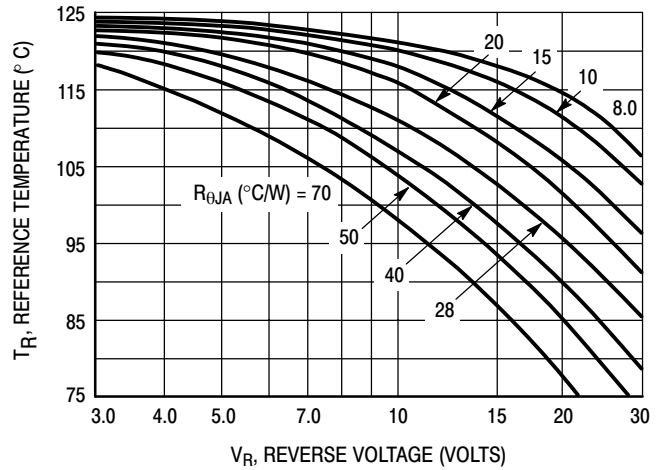

Figure 2. Maximum Reference Temperature 1N5821
Step 2. Find T_R from Figure 2. Read $T_R = 108^\circ\text{C}$